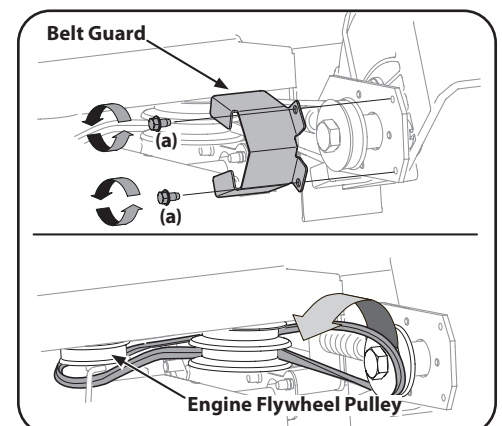

Figure 4-4
3. Remove the spindle sheaves belt guard by removing the two self-tapping screws (a) which secure it to the blade plate assembly. See Figure 4-4.
4. Carefully remove the belt from off of the pulleys, again making sure to note the orientation of the belt. Discard the belt. See Figure 4-4.
- NOTE:** Make certain that the "V" side of the belt is seated into the top pulley and the flat side of the belt is seated into the bottom pulley. See Figure 4-4.